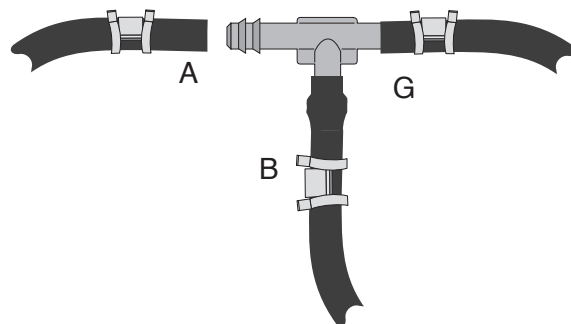

fig. 7
- Slide an air line clamp (G) onto the air line (Fig. 7). Install the hose onto the right side (passenger) air spring first.
6. Cut the right side hose that is installed where the tee location will be. Slide an air line clamp onto the air line and push the air line over one side of the tee until all the barbs are covered. Slide the air line clamp forward until it fully covers the barbed section of the tee. Repeat for the other leg of the tee and route to the left side air spring. (Fig. 7)
5. Push the air line onto the stem, covering all the barbed section (see Fig. 7). With pliers slide the air line clamp forward until it fully covers barbed section.